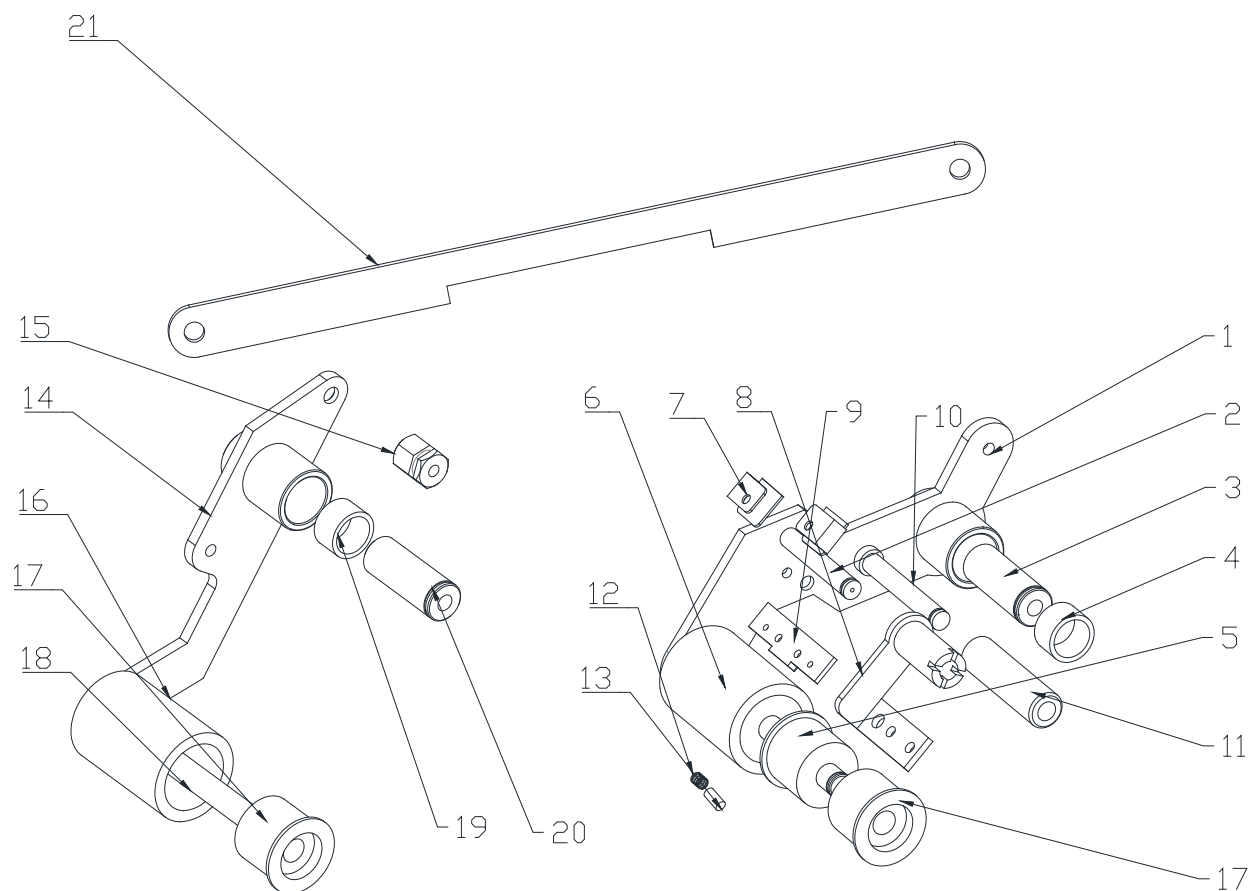

Figure 16
6.5.2 The tape sticker swing arm (See Figure 16):